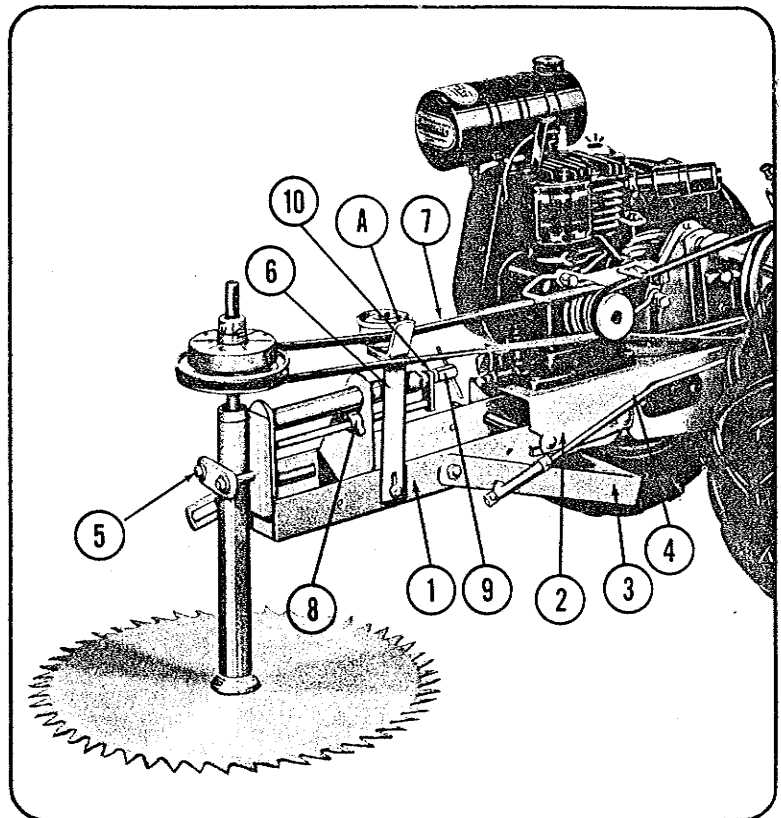
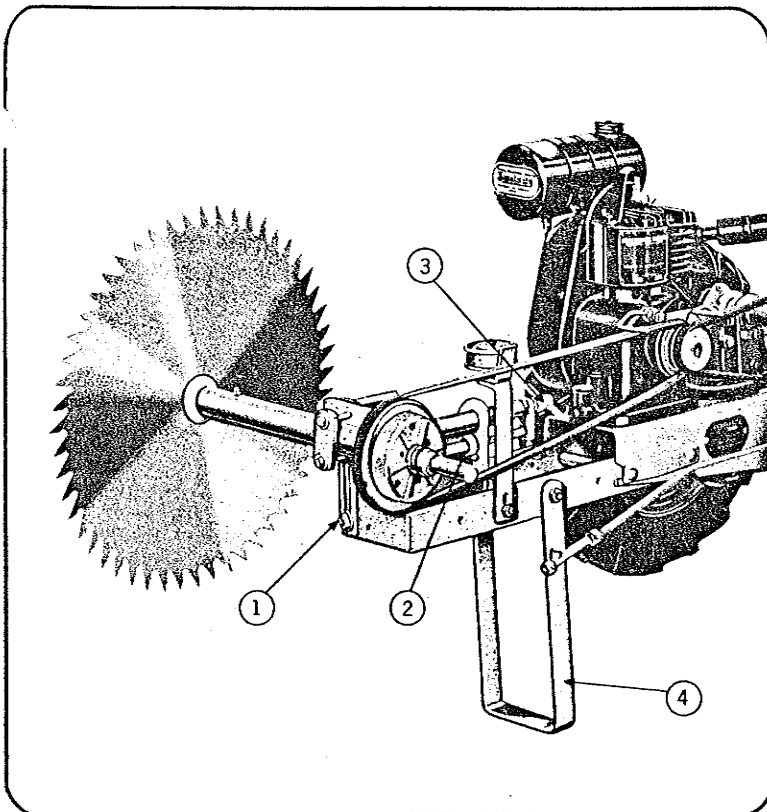

Figure 1 — Saw Mounted in Horizontal Position
Figure 2 — Saw Mounted in Vertical Position
1. Attach the saw frame (1, Fig. 1) to the patented QUICK-HITCH (2, Fig. 1) on the front of the tractor.
2. Tighten the two T nuts on QUICK-HITCH and drop stand (3, Fig. 1) into position on ground.
3. Attach stand rod (4, Fig. 1) to stand and to lower clutch lever with spring clips.
1. Remove one screw from arbor holder clamp (5, Fig. 1) and insert arbor in vertical position as illustrated in Figure 1.
2. Raise idler bracket (6, Fig. 1) until parallel to arbor shaft and tighten carriage bolt.
5. Place A-56 Special Belt (7, Fig. 1) over arbor pulley and over middle groove of engine pulley so belt rides on idler pulley inside of belt support, (A, Fig. 1) as shown.
6. Tighten set collar (8, Fig. 1) on adjusting screw assembly and turn tightener screw (9, Fig. 1) until belt is
tight; then lock with nut (10, Fig. 1).
7. Remove left hand hex nut and flange from end of arbor shaft. Place saw blade as shown in Figure 1 over end of arbor and secure it with flange and hex nut. To insure tightness tap wrench with hammer.
(See Figure 2)
1. Follow same steps for mounting saw in horizontal position except arbor should be placed in horizontal position by loosening arbor prop nut (1, Fig. 2) and swinging saw blade into vertical position. V-belt runs on outside of belt support (A) as shown.
2. Arbor pulley should be lined up with middle groove of engine pulley as illustrated in Figure 2.
3. Tighten set collar (2, Fig. 2) on adjusting screw assembly and turn tightener screw (3, Fig. 2) until belt is tight; then lock with nut (4, Fig. 2).
1. Place saw in vertical position as shown in Figure 2.
1. To raise or lower stand (4, Fig. 2) hold down tractor handles slightly and move left clutch lever to the rear or forward. Stand must be raised when using saw in horizontal position (Fig. 1). Lower stand when using saw in vertical position (Fig. 2) except when using cradle.